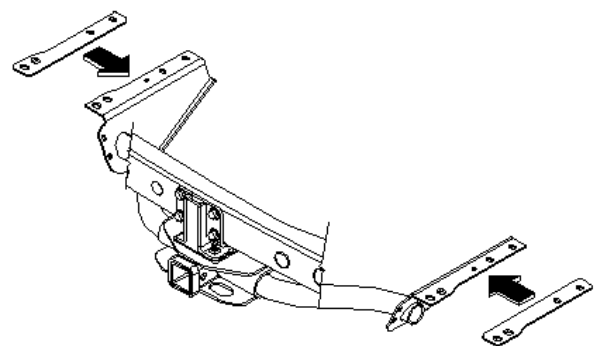

Fig. E-1
-  1. Place frame spacers between hitch brackets and vehicle frame. (Fig. E-1)